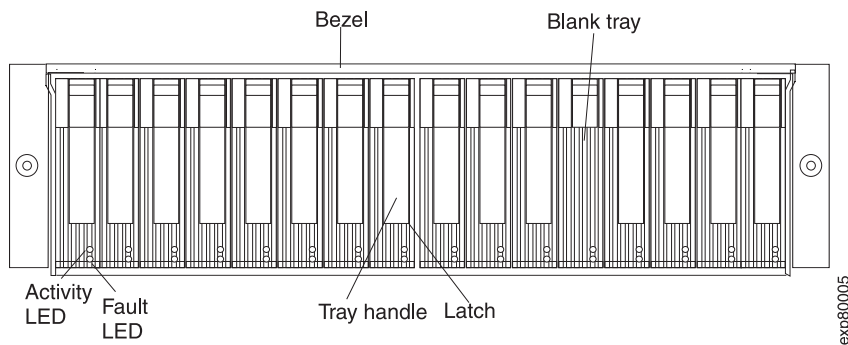

Figure 60. Hot-swap E-DDM LEDs
2. Check for Fault LEDs shown in Figure 60. If any amber LEDs are lit, see “Solving problems” on page 135.